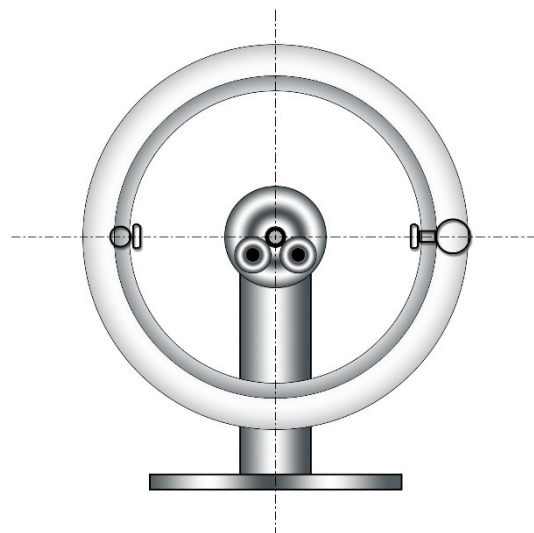

Figure 4: Matching
- Now remove the applied balancing weight (step 5). With a little bit of luck, the unbalance of the rim without tires and the rim with tires is emphasised. To reach this point, turn the tire on the rim until the unbalance faces (both marked points as shown in Fig. 4 are opposite each other). Now